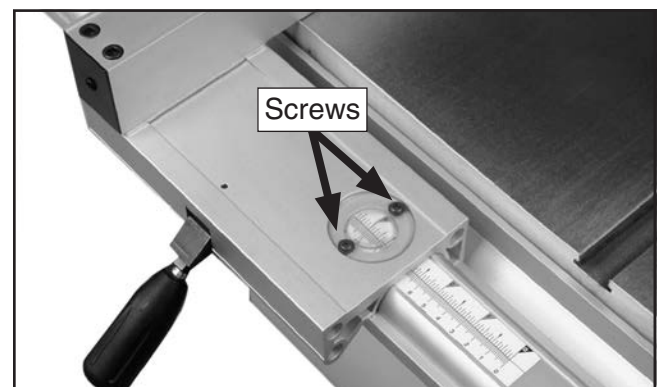

Figure 75. Fence scale window and screws.
4. If the reading on the scale is not the same as the width of the cut workpiece, loosen the two screws on the magnifying window (see **Figure 75**) and adjust it to match the width of the cut workpiece.